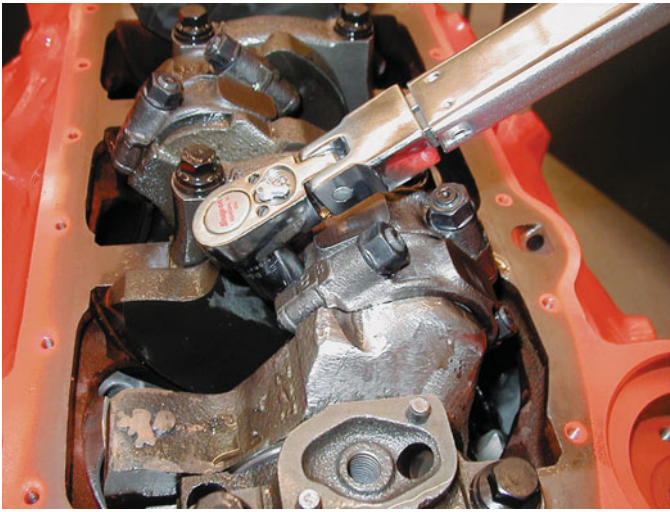

FIGURE 1-26 Using a clicker-type torque wrench to tighten connecting rod nuts on an engine.
1. **Clicker type.** This type of torque wrench is first set to the specified torque, and then it “clicks” when the set torque value has been reached. When force is removed from the torque wrench handle, another click is heard. The setting on a clicker-type torque wrench should be set back to zero after use and checked for proper calibration regularly. ● **SEE FIGURE 1-26.**